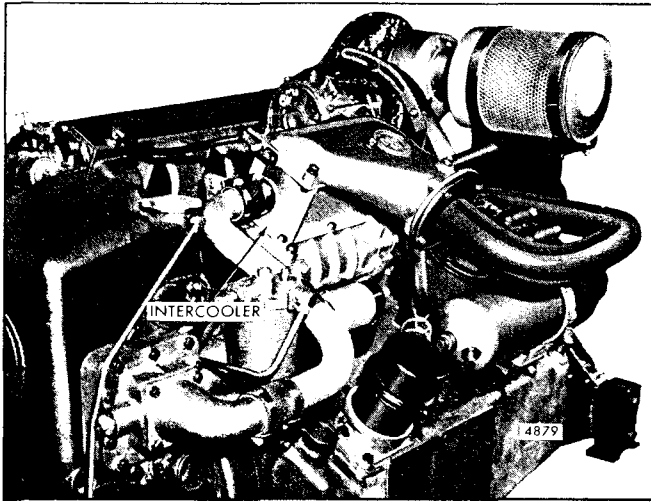

Fig. 1 - Turbocharger Intercooler Mounting
1. Position the turbocharger, using a new gasket, against the exhaust manifold adaptor and secure it in place with four bolts, lock washers and nuts (Fig. 1).
2. Loosen the two hose clamps on the hose connecting the raw water inlet tube to the inlet end of the intercooler (Fig. 1).